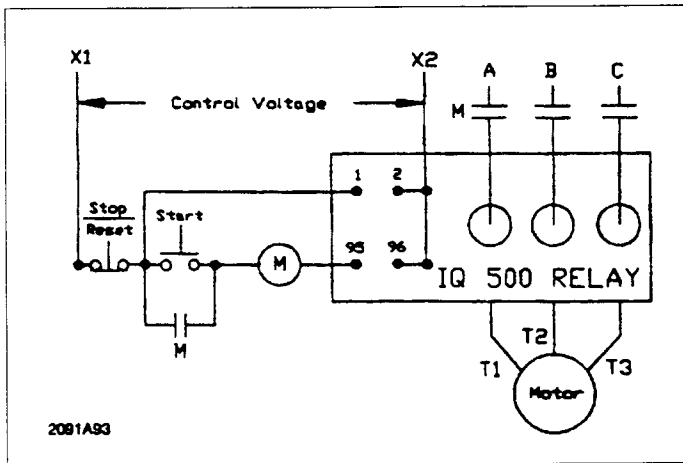

Fig. 4 IQ-500 Relay External Reset Connections
**NOTE:** If manual reset has been chosen, switch Position 7 will permit electrical reset when in the ON position. Electrical reset will occur with Position 8 of DIP 1 OFF and Position 7 of DIP 2 ON. Electrical reset connections are shown in Figure 4.